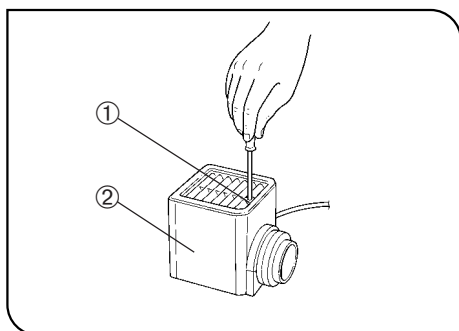

Fig. 78
2 Attaching the Halogen Bulb (Figs. 78 to 80)
5. Fit the lamp housing from up and tighten the clamping screw ① by applying downward pressure. (Fig. 78)